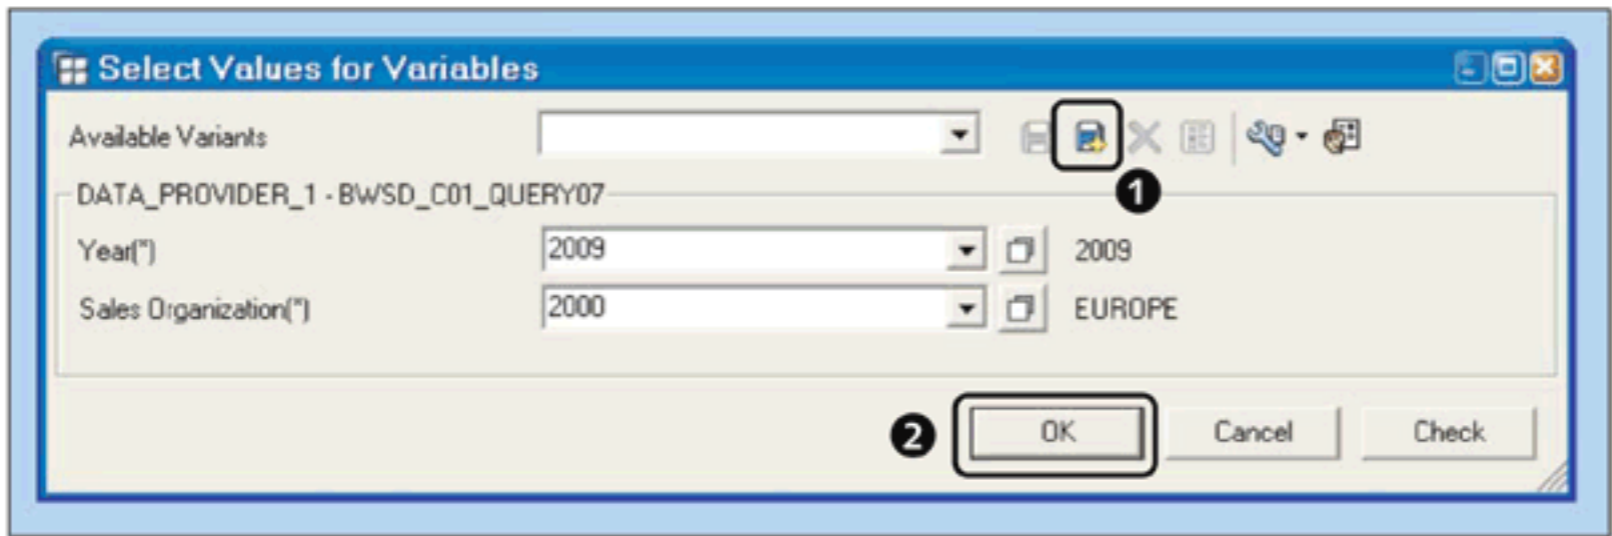

Figure 10.5 Select Values for Variables
This executes the selected query in BEx Analyzer. If the selected query has user entry variables included in it, the variable screen SELECT VALUES FOR VARIABLES appears, as shown in Figure 10.5.
Select the required values for the variables on this screen. If you want to save this selection for future use, you can save it as a variant using the button shown in 1 of Figure 10.5. Finally, select OK (2) to execute the query for the select variable values.